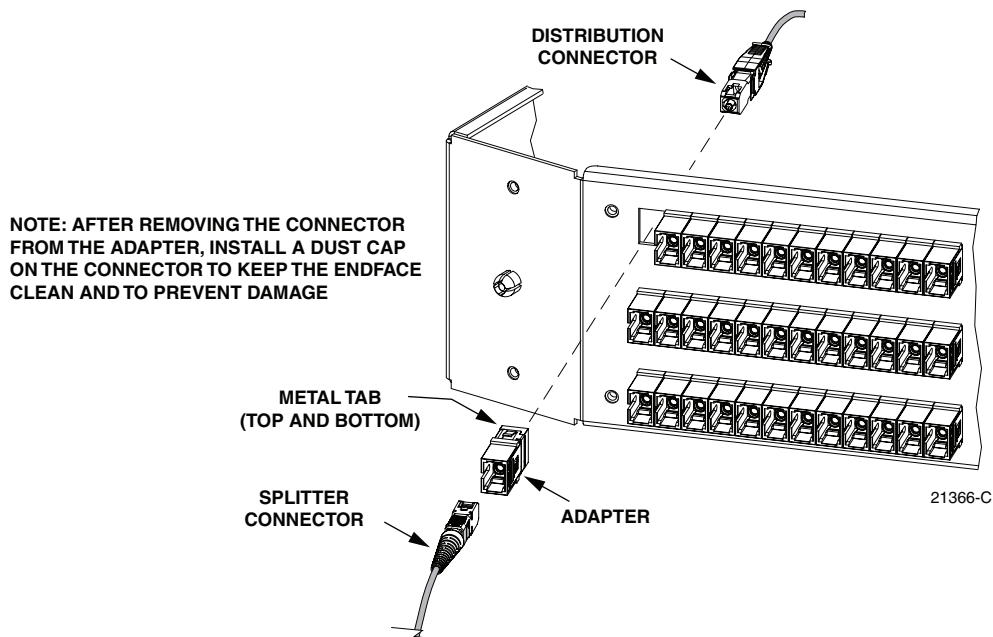

Figure 39. Adapter Removal and Replacement
18.2.1 1. Disconnect the splitter connector from the front side of the broken adapter as shown in Figure 39 and install a dust cap on the connector.